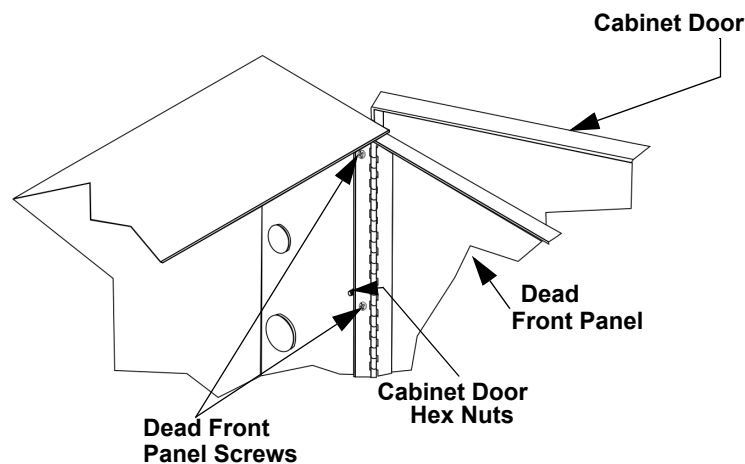

Figure 3-4 Cabinet Door and Dead Front Panel Removal
1. Using a Phillips head screw driver, remove the six screws that hold the dead front panel in place. See Figure 3-4.
2. Using a 1/4" Hex drive, remove the six Hex nuts that hold the cabinet door in place. See Figure 3-4.